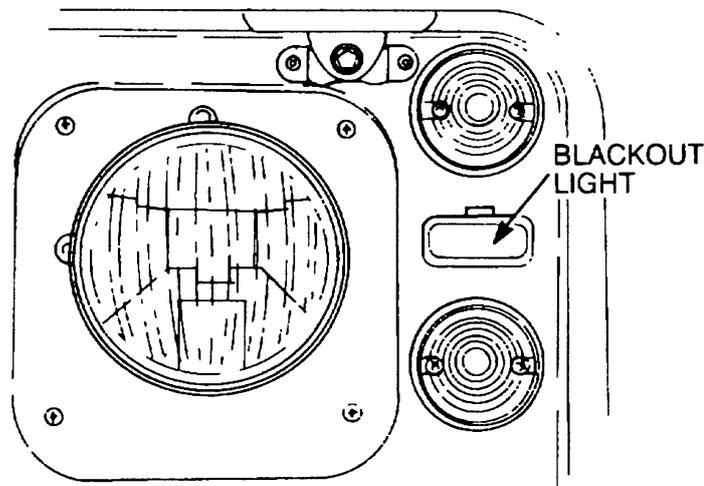

Figure 186 Blackout Light (Front) Removal
- c. Remove the two nuts and washers securing the light unit to the front panel (Figure 186).